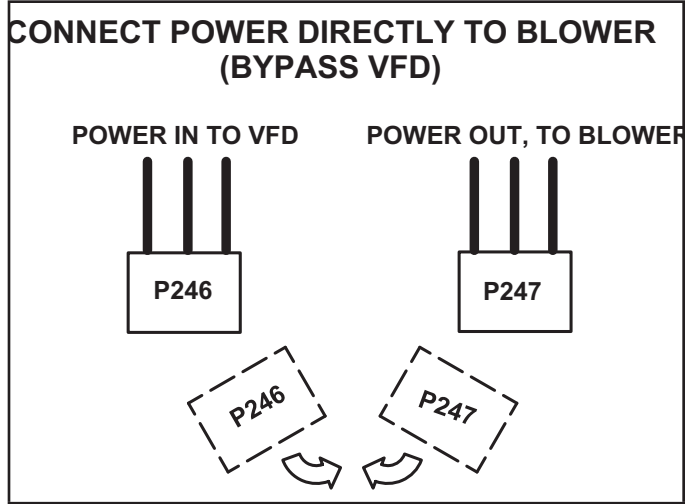

FIGURE 27
4. Connect P246 to P247. See FIGURE 27.